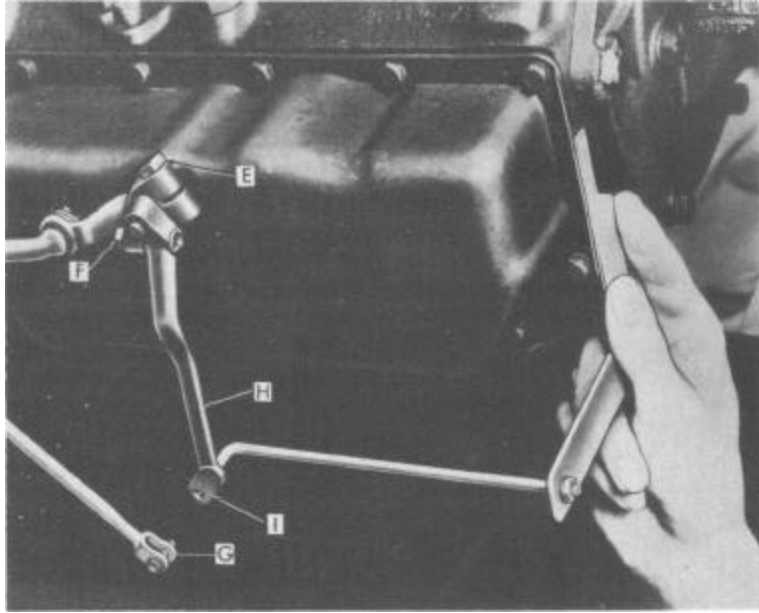

Figure 3
3. Raise car, disconnect the transmission throttle rod (G) Figure 3 at the transmission outer lever (H). Tighten outer throttle lever clamp bolt (F) if necessary.
- (a) Clean the machined surface at back of transmission case and place the throttle lever checking Fixture J-2195 flat against the back surface of the transmission case with the edge of the checking gauge against the transmission side cover Figure 3.
- (b) With the transmission outer throttle lever held against its stop (toward rear of transmission), the throttle outer lever hole should enter freely over the small diameter of the gauge pin (I) and the inside face of the throttle control lever should just touch the larger diameter of the gauge rod. Do Not Force the outer lever against its stop and Do Not try to bend this lever unless you have the proper bending tool.